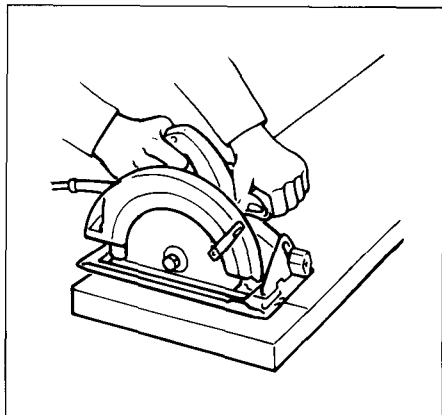
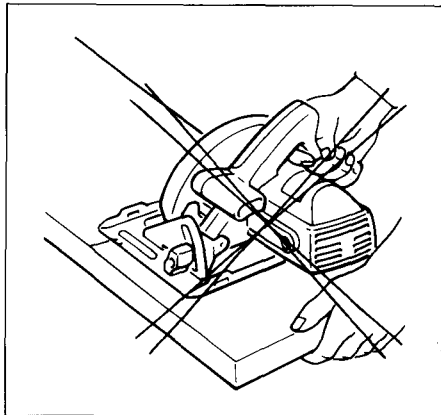

Fig. 5
Fig. 6
15. Place the wider portion of the saw base on that part of the workpiece which is solidly supported, not on the section that will fall off when the cut is made. As examples, Fig. 5 illustrates the **RIGHT** way to cut off the end of a board, and Fig. 6 the **WRONG** way. If the workpiece is short or small, clamp it down. **DON'T TRY TO HOLD SHORT PIECES BY HAND!**